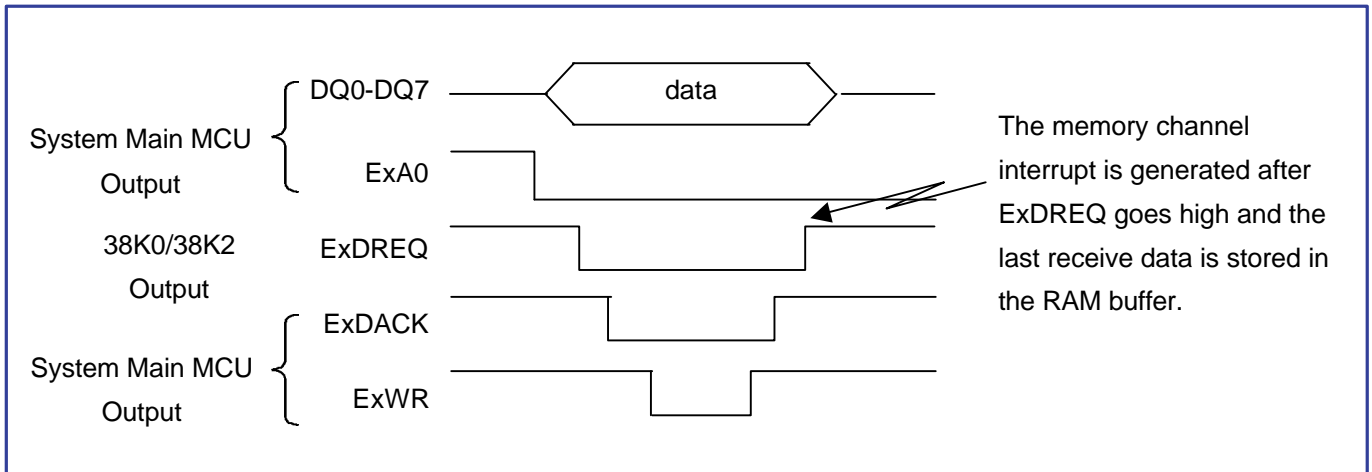

Figure 2.4.2 (1) Memory Channel Receive Waveform
As shown in Figure 2.4.2 (1), DMA format can be used for memory channel transfers. If 38K0/38K2 detects the rising edge of ExWR when ExA0 = "L", ExDREQ = "L" and ExDACK = "L", it temporarily latches one byte of DQ0 – DQ7 to the receive buffer register and then writes the data to the RAM in the order determined by the arbitration circuit. 38K0/38K2 repeats this operation several times until all data is transferred, and then generates a memory channel operation completed interrupt.